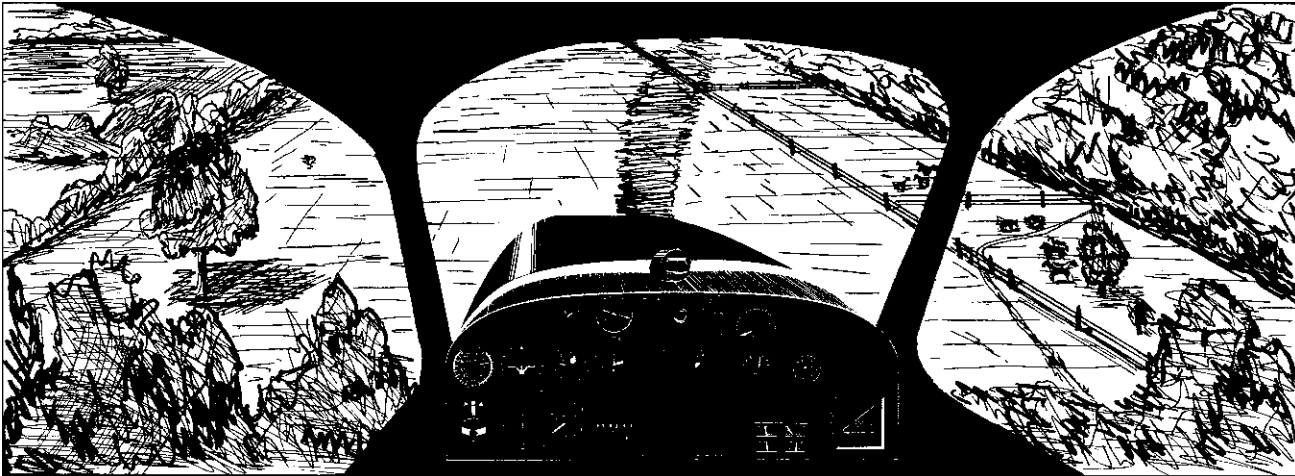

Figure 18-5. Well, it's no Dulles International Airport, but because you used proper techniques, you'll make it without any damage to the airplane or occupants.
5. Once you have the field made, remember the landing is just like the one back at the airport (Figure 18-5). A normal landing will minimize the damage if the field is rougher than it looked from 3,000 feet.